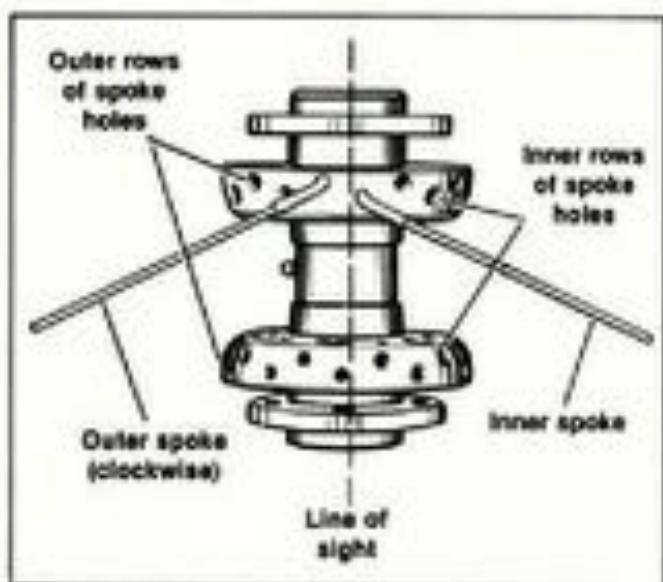

Figure 2-14. Early Style Hub
**Early Style Hub** — See Figure 2-14. Pick any outside spoke hole and sight straight across the hub. The first spoke hole to the right of the centerline is an inner spoke hole. Also, with the wheel assembled, all inner spokes on opposite sides of the wheel angle in the same direction and all outer spokes on opposite sides of the wheel angle in the same direction. See Figure 2-16.
- See Figure 2-14 and 2-15. Insert 10 spokes into the upper flange inner spoke holes. Swing the loose ends clockwise as far as they will go.